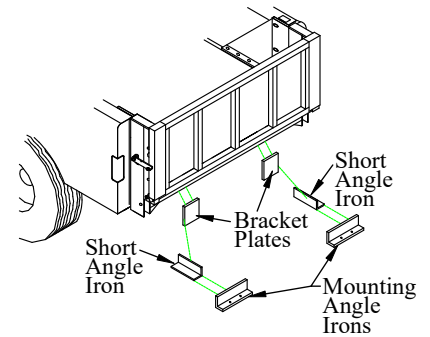

Figure 21: Lower bracket support.
- 2. Bolt** the bracket plates to the truck frame (Figure 21).